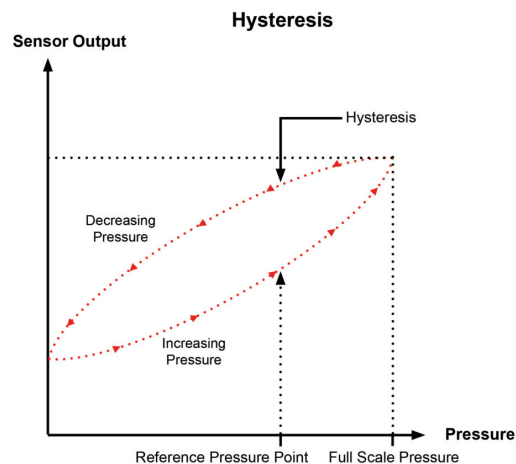

Figure 3: Hysteresis Loop of a Pressure Sensor
3. Turn the power supply on, this should blow the ping pong ball up the tower (it should get relatively close to the top of the tower, if not talk to a GSI/tutor). This can visually be seen below in **Figure 3**.